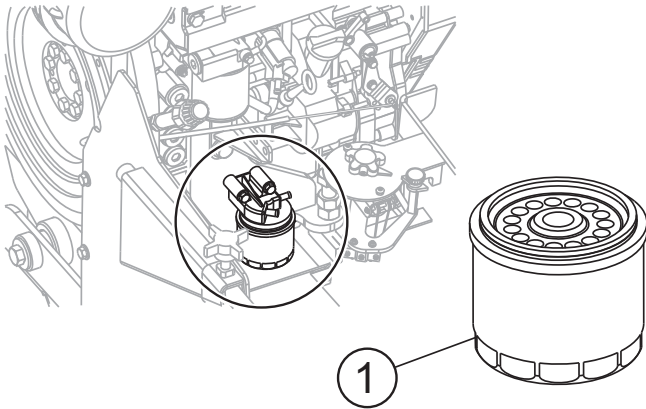

Figure 39. Fuel Filter Removal
- Replace the engine fuel filter (Figure 39) every 500 hours. Refer to your engine manual for specific details to perform this operation.